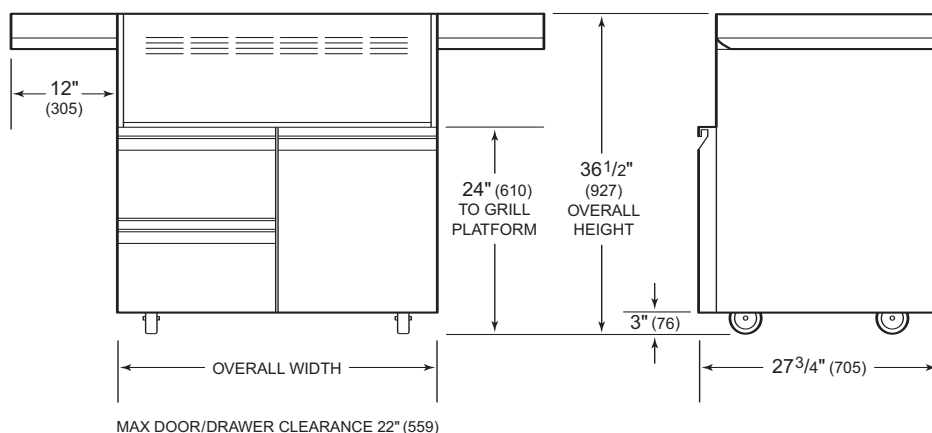

Figure 2-1. Grill & Cart Dimensions (See Tables Below for Width Dimensions)
7. Attach side shelves to cart (See Figure 2-1 below and Figure 2-2 / Side Shelf Installation, on next page). The instructions on the next page are also supplied with the side shelves.